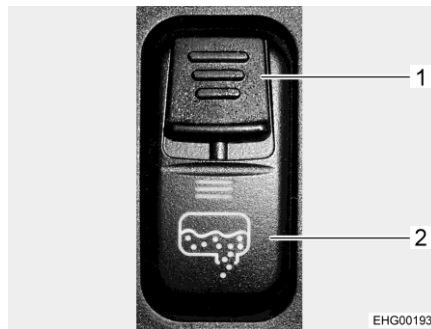

Fig. 211 Rocker switch (waste water drainage)
- Push the safety slide button (Fig. 211,1) on the rocker switch downwards and, at the same time, press the lower part of the rocker switch (Fig. 211,2). Doing this, the waste water valve is opened and the waste water tank is emptied. The LED is lit as long as the waste water valve is open.